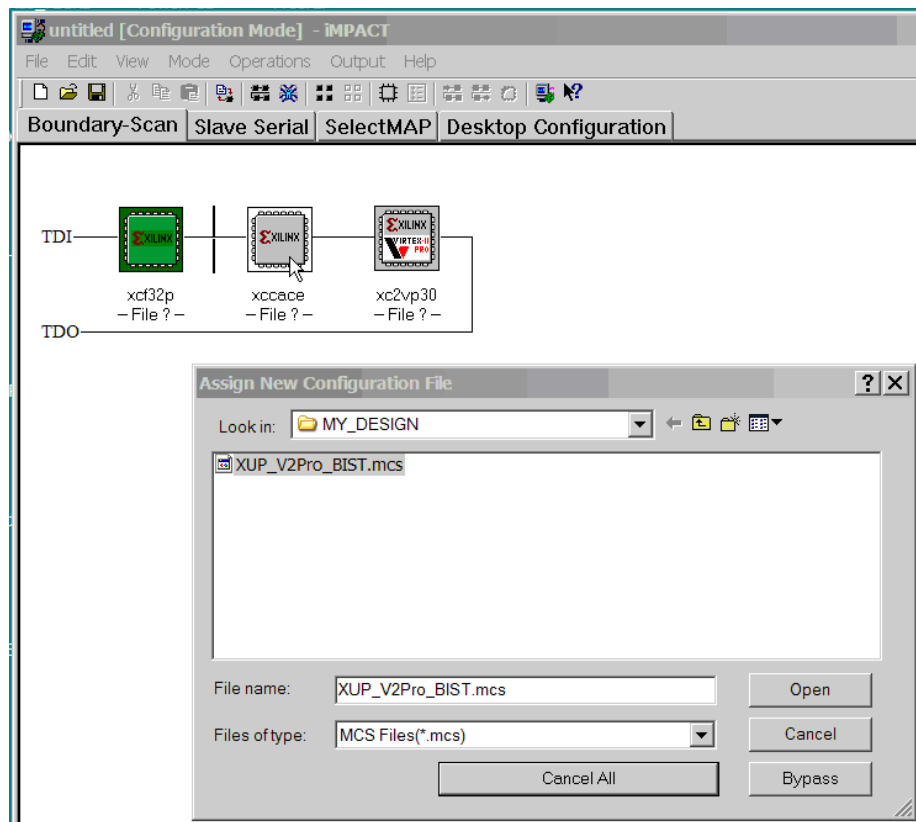

Figure C-4: Assigning New PROM Configuration File
7. Navigate to the directory where you saved the XUP\_V2Pro\_BIST.mcs file. Select this file as the Configuration file for the XCF32P PROM, the first device in the JTAG chain identified by iMPACT as shown in Figure C-4. Click on the Open button.